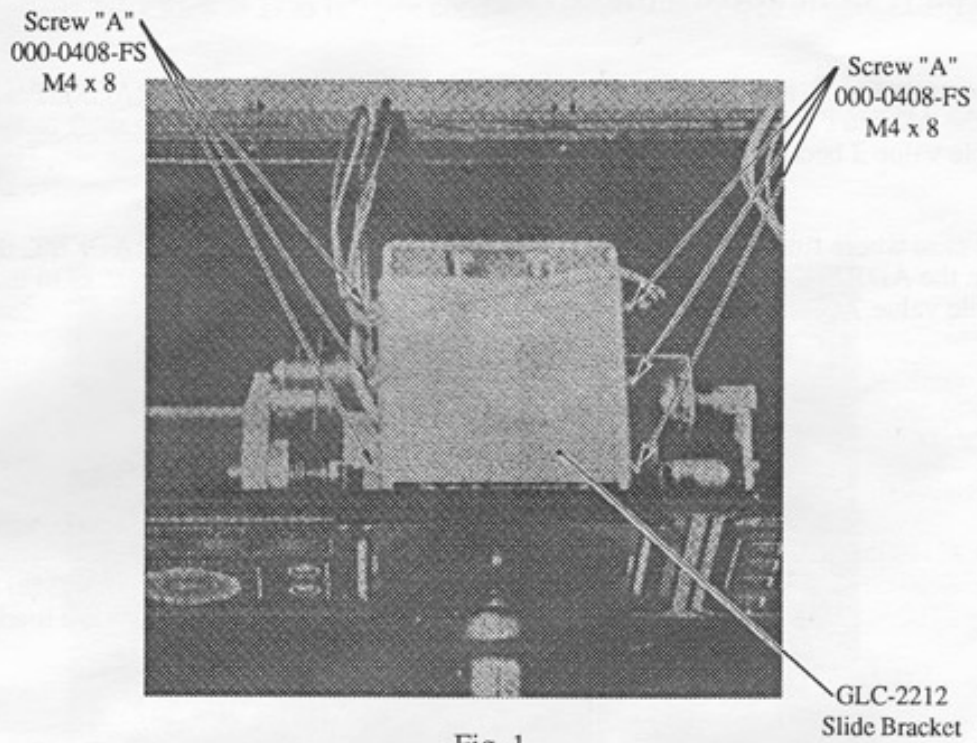
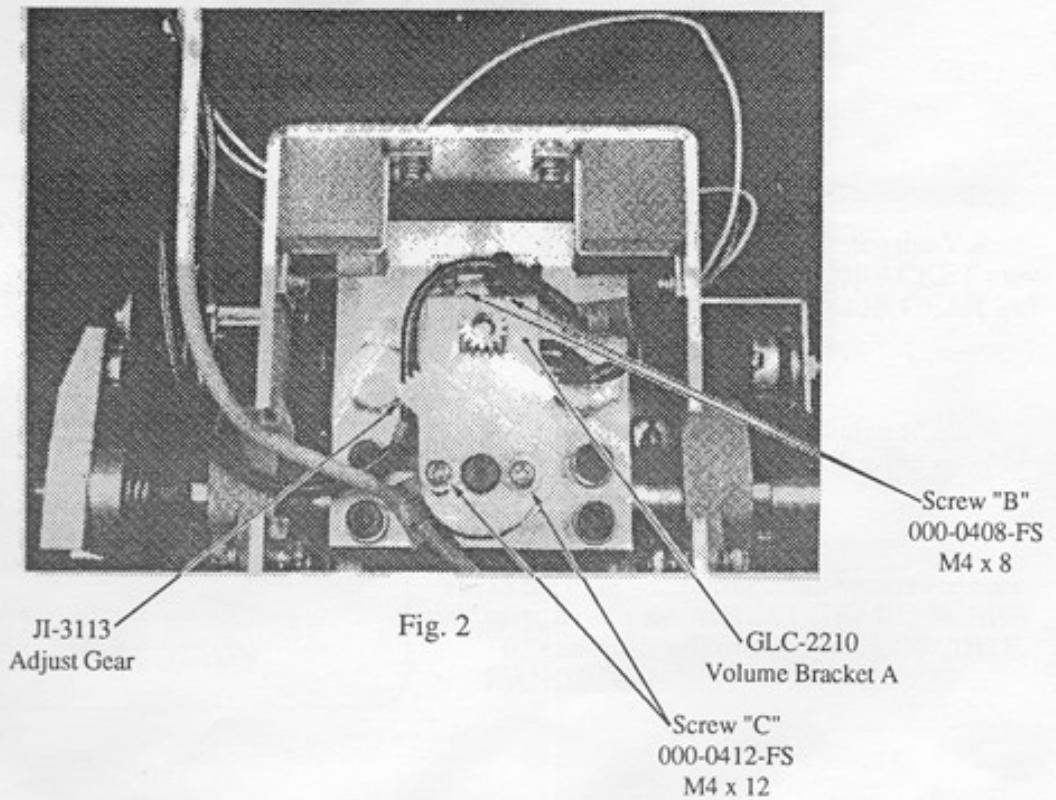

Fig. 1
Fig. 2
- 1) Loosen the 6 SCREWS "A" which are shown by the arrow marks in Fig. 1, and detach the SIDE BRACKET from the CONTROLLER UNIT in a manner as shown in Fig. 2.